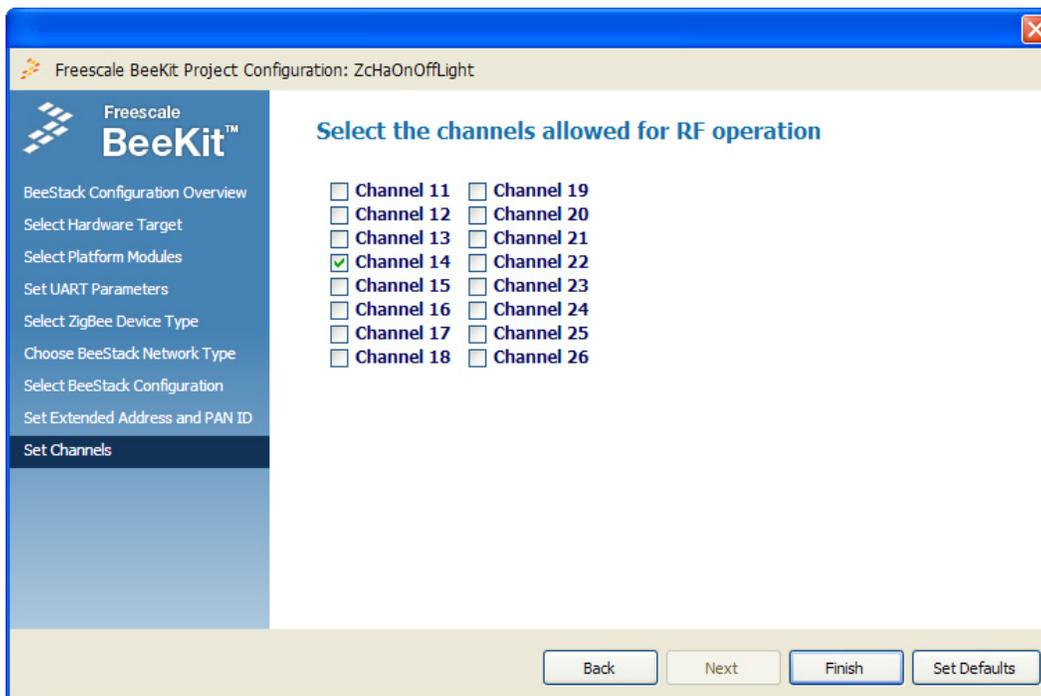

Figure 3-12. Channels Page
16. Click Next. The Channels page appears as shown in Figure 3-12.